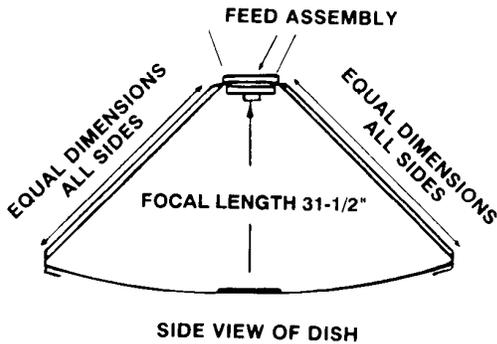

FIGURE 8
STEP 4: Adjust focal length & centering. See Figure 8.
Once you have achieved proper tracking of the polar arc, focal and feed centering should be checked. The focal length and focal point are approximations and may vary from one reflector to the next. Refer to Figures 8, 10 and 11.